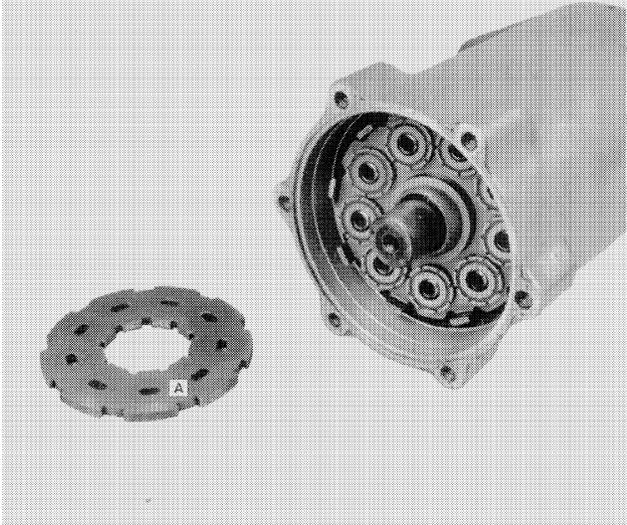
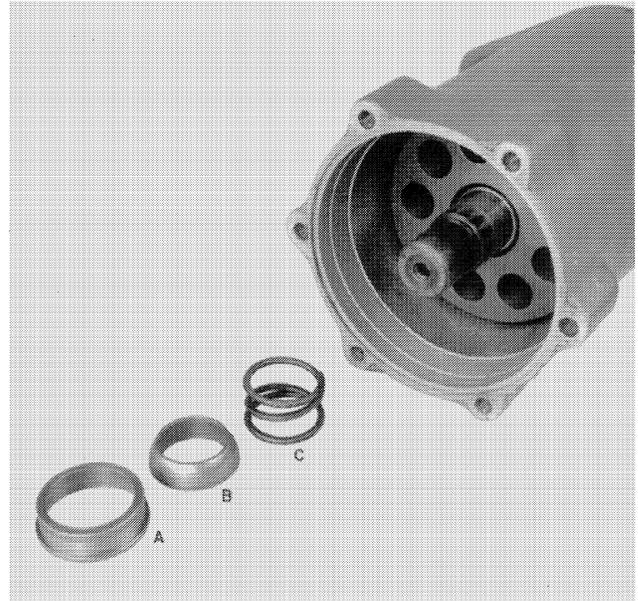

FIGURE 1-24
FIGURE 1-26
7. Remove connector plate, A, Figure 1-24.
9. Remove pilot, A; pivot, B; and spring, C, Figure 1-26.
9. Place spring, C, Figure 1-26, over the shaft. Lubricate and assemble the pistons in the spider as shown in Figure 1-25. Assemble pivot, B, and spacer, A, Figure 1-26, and piston assembly into the piston block as shown in Figure 1-24.
10. Lubricate the shoes of the pistons and lay the flat part of connector plate, A, Figure 1-24, over the pistons.